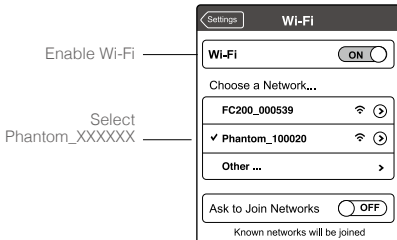

Figure 45
- (1) Power on the Remote Control and the Range Extender.
- (2) Power on the Phantom 2 Vision+.
- (3) Enable the Wi-Fi on your mobile device; wait for about 30 seconds, and then select "Phantom\_XXXXXX" from the Wi-Fi network list (Figure45).